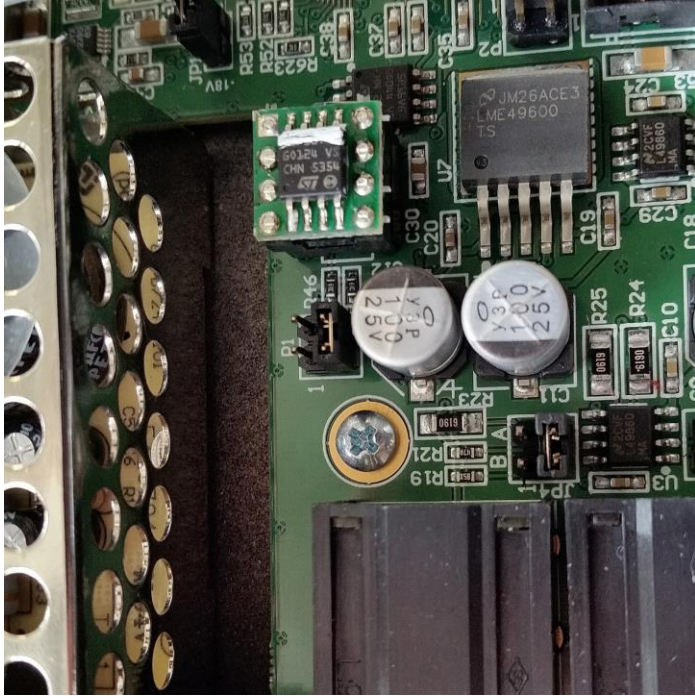

Figure 3 - Finished installation. White line on software chip must face the rear of the unit!
5. Insert the software chip in socket U8 on the main board with the white line facing the rear of the unit (see Figure 3).
6. Using Figure 3, check the positions of the jumpers (P1 on main board).
7. Using Figure 3, check the orientation of the software chip. The white line must face the rear of the unit. The chip will be damaged if it is inserted backwards!